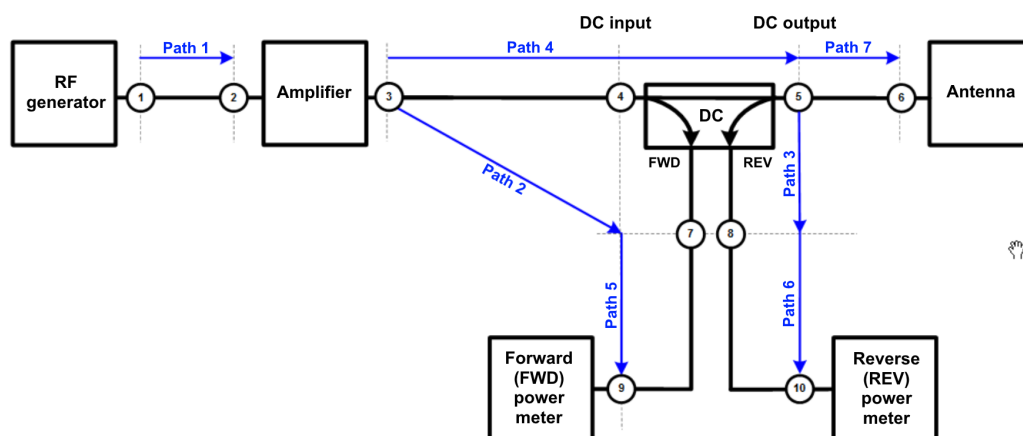

Figure 5-4: Devices and signal paths, with DC close to antenna
Follow exactly Figure 5-4 when you measure the paths, or when you specify the paths' attenuations by values or tables.
To do so, you can specify the paths in the device list or in the properties dialog of the devices via the clickable icons in the hardware setup. Note that your changes in the properties dialogs change the devices' properties globally in the device list. The legend of Figure 5-4 tells you for every path where to specify its attenuation:
- ▶ Several EMS tests that simulate on-board transmitters (like FORD RI115) require measuring the net power at the antenna input. Because this measurement requires mounting the DC directly at the antenna input, R&S ELEKTRA must apply the modified paths as in Figure 5-4.